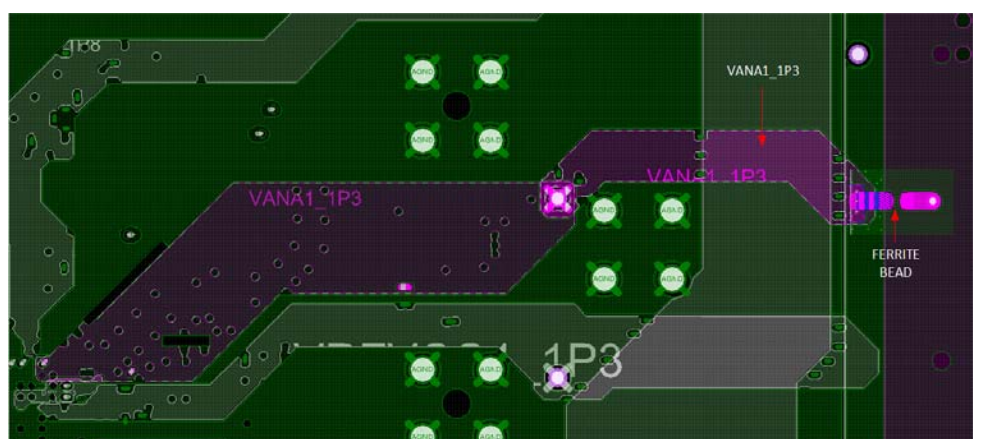
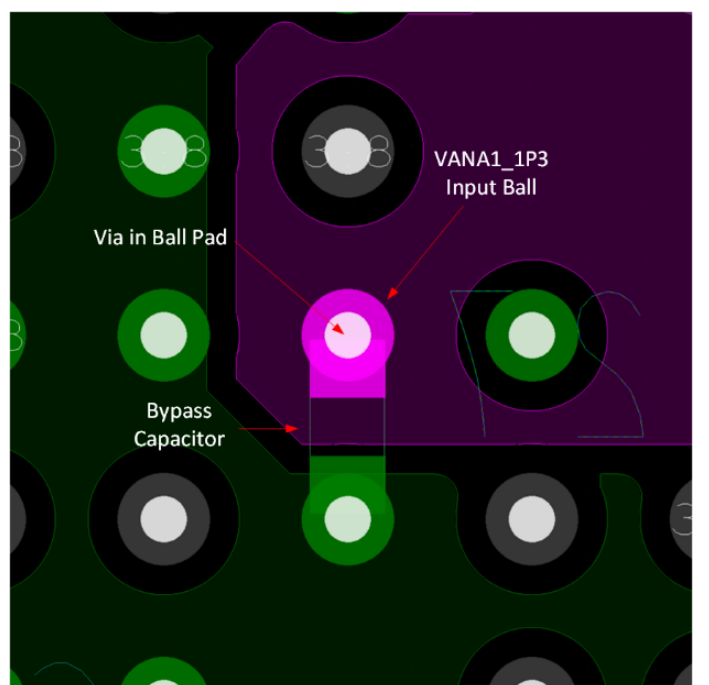

Figure 154. Power Supply Routing Example with Ferrite Bead at the Input (VANA1\_1P3)
Figure 155. Power Connection to Supply Ball with Bypass Capacitor Between Vias
- Figure 154 and Figure 155 illustrate an example of how the power supply routing from the common power ring to a bypass capacitor and into the ADRV9026 device is implemented. Note that the bypass capacitor is connected directly to the vias leading from the bottom of the PCB to the ball pads on the top of the PCB.